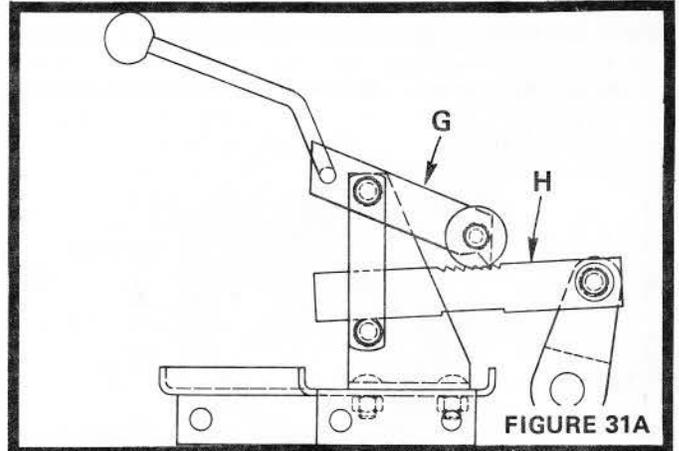

FIGURE 31A
- Depress Brake-Clutch Pedal and position Park Brake Lever (G) in the forward second notch on the Lockbar (H) (Fig. 31A).